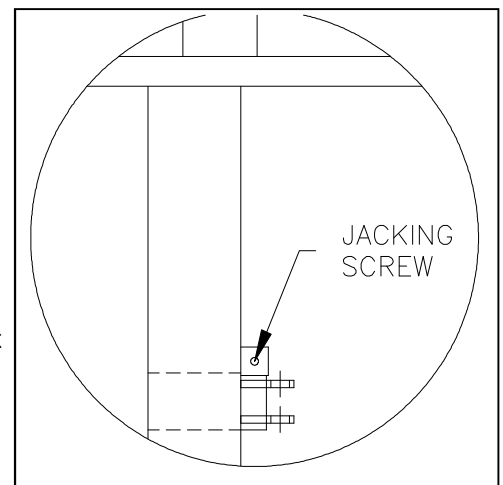

Figure 48: Use Jacking Screw to Eliminate Dead Space
7. ☐ Also screw down the jacking screws to remove any potential dead space between the concrete and underside of the pan. (See “Figure 48: Use Jacking Screw to Eliminate Dead Space” on page 37)
6. Also screw down the jacking screws to remove any potential dead space between the concrete and underside of the pan. (See "Figure 48: Use Jacking Screw to Eliminate Dead Space" on page 37)